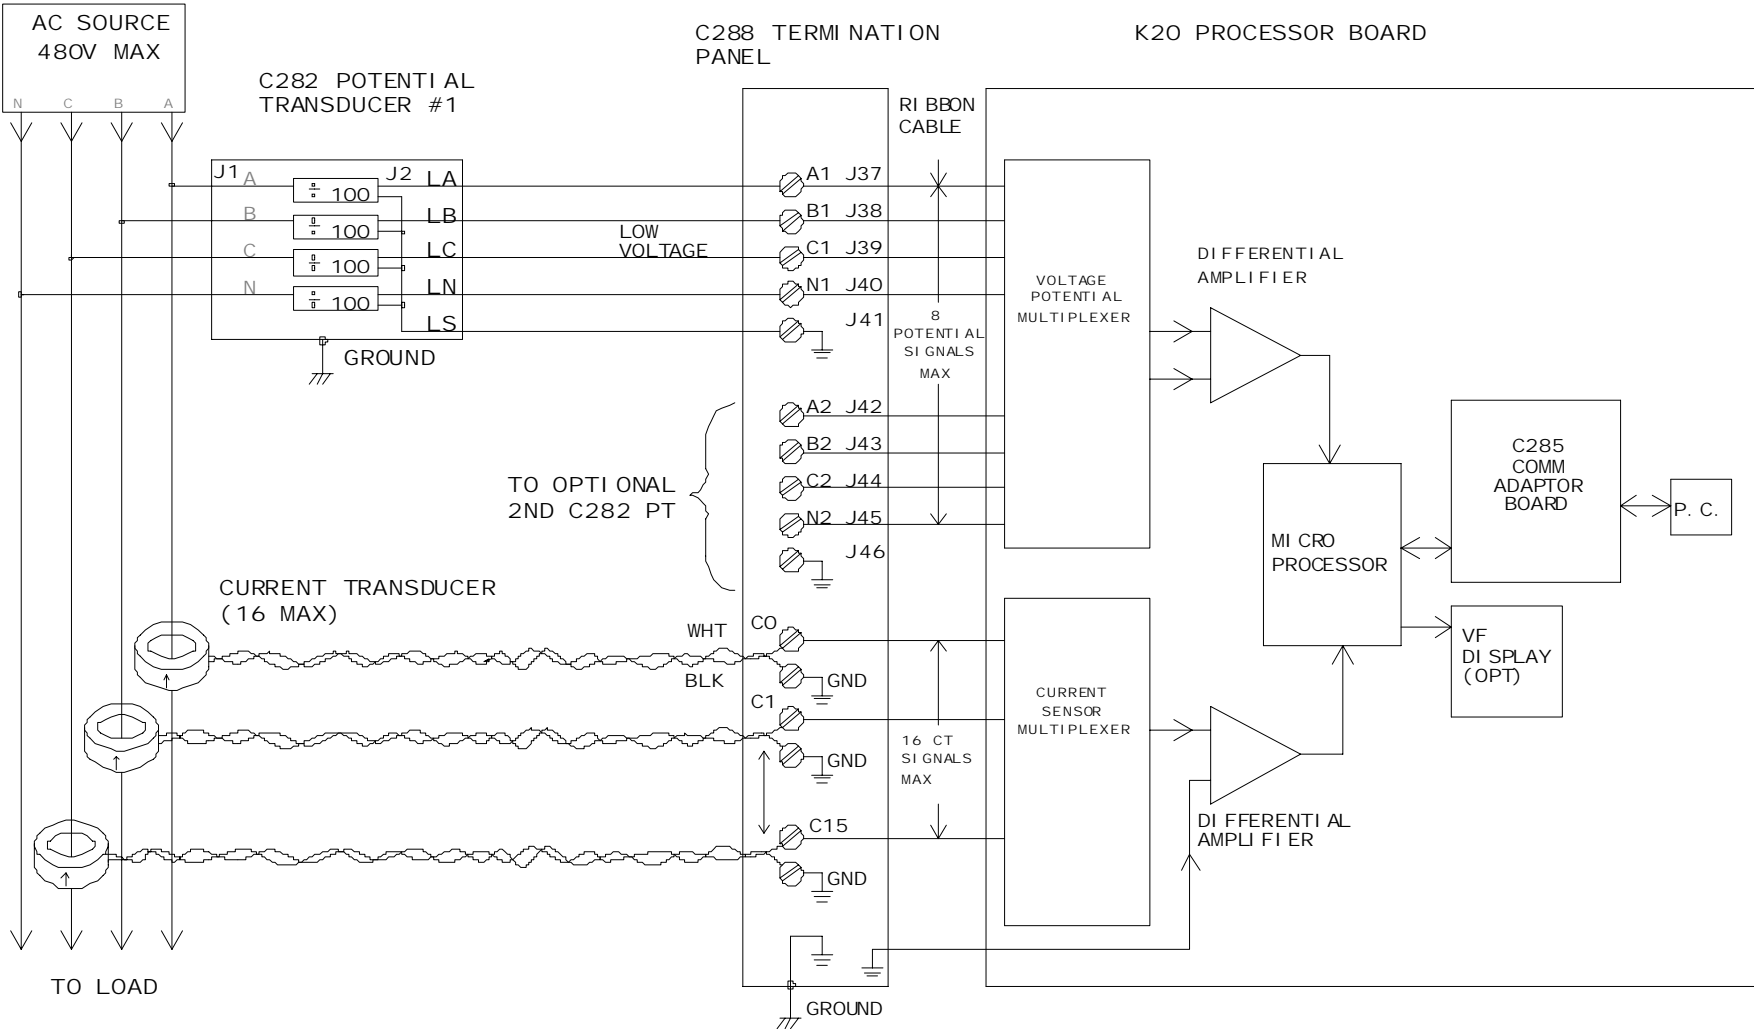

Figure 1 — K20 Interconnection Schematic
A K20 provides eight or sixteen logical “measurement channels”; each channel is associated with a single current transformer (CT) and a single potential input. The K20 may be connected to one or two 4-lead Potential Transducers, which are connected to the voltage lines to be measured. When a K20 parameter set is defined, each measurement channel is associated with a current transformer and a PAIR of potential leads, one lead being the “high side” of the voltage to be measured, and the other lead the “low side.” The K20 allows any CT to be assigned to any of the available logical measurement channels. The four Potential Transducer leads are commonly connected to the A:B:C:N leads of a three-phase power circuit, allowing ANY line-to-neutral or line-to-line potential to be the “measured voltage” associated with a measurement channel. A schematic diagram of the interconnections in a K20 power metering system is shown in Figure 1.